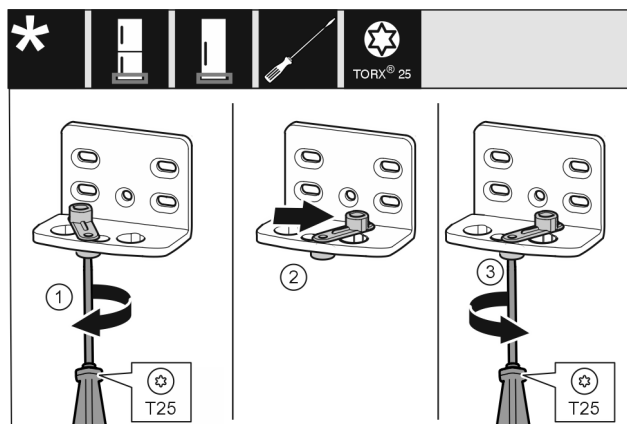

Fig. 23
- Loosen the screw using a T25 screwdriver. Fig. 23 (1)
- Lift the door closing aid and turn it 90° to the right in the hole. Fig. 23 (2)
- Tighten the screw using a T25 screwdriver. Fig. 23 (3)